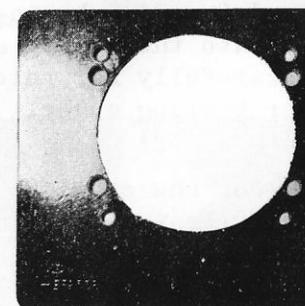

Fig. 9-29
(3) Firmly hold the pump in vice in the following manner.
Fasten the pump to the mounting plate (EF 9558) by clamping the two (2) opposed setting bolts and hold the mount plate securely in vice. (See Fig. 9-29)